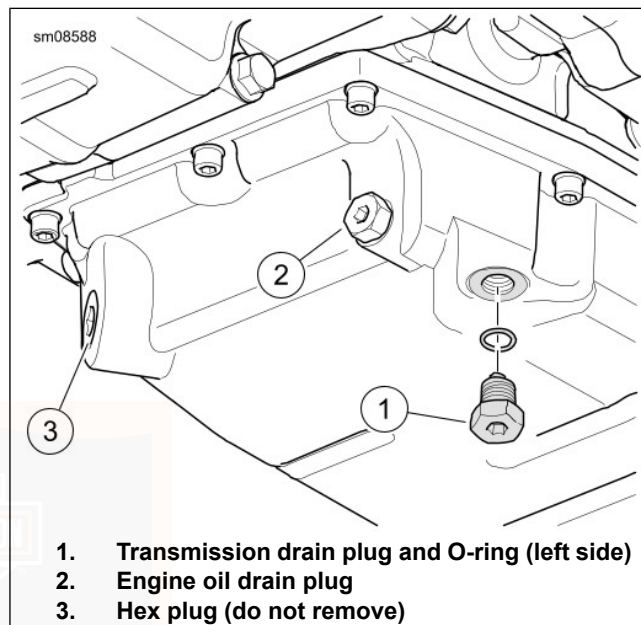

Figure 69. Transmission Drain
2. See Figure 69. Remove transmission drain plug. Drain transmission.